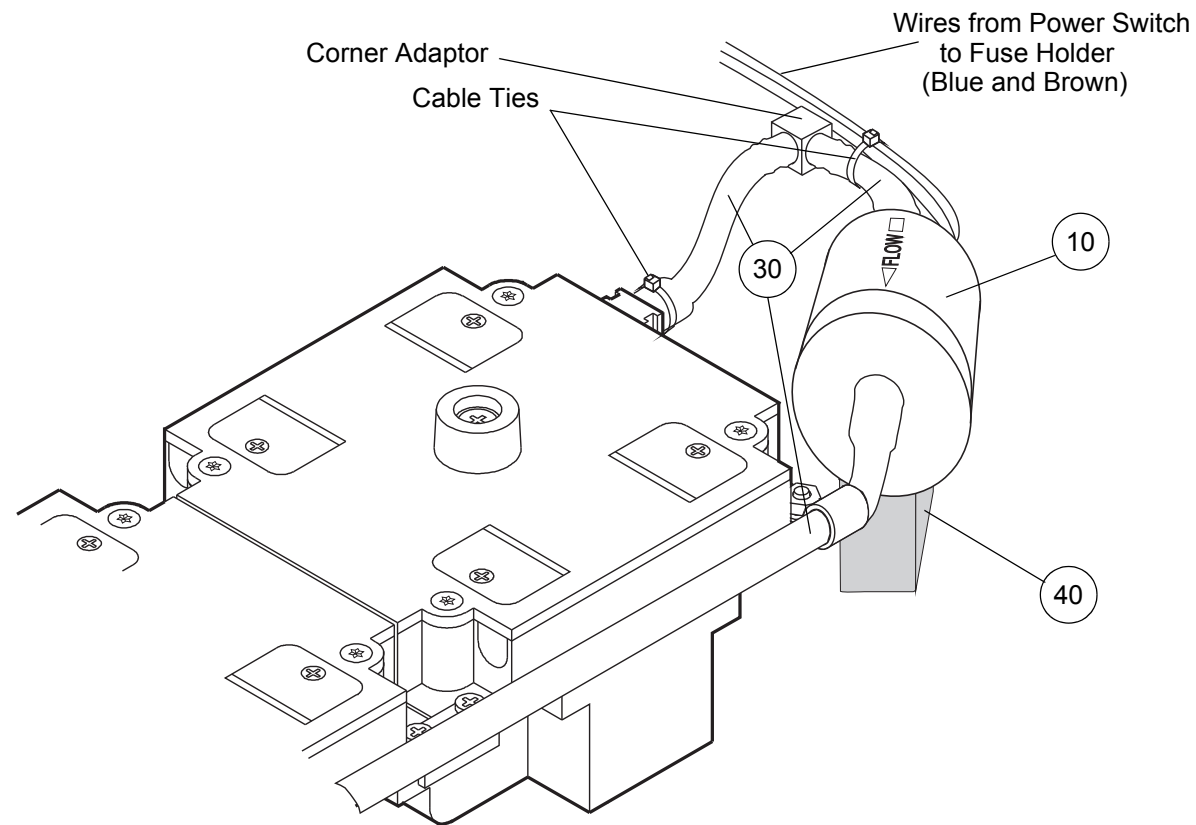

Figure 24 - Replacing the Bio Filter
- 32.2 If it is necessary to replace the Bio Filter hoses as well as the Bio Filter, then cut and remove the cable ties as shown in Figure 24.
- 32.3 Ease the hoses off and remove the Bio Filter (Fig 24, Item 10). If necessary remove the hoses and the corner adaptor.
- 33.2 Push the new Bio Filter (Fig 24, Item 10) onto the hose which leads to the Silencer Bag. Ensure the flow indicator on the Bio Filter is uppermost and points towards the Silencer Bag hose.